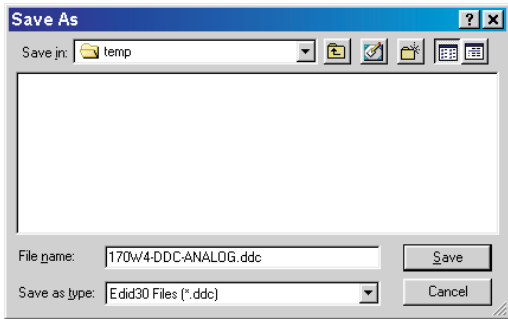

Fig. 30
1. Click (Save) icon (or click "file"-> "save as") from the tool bar and give a file name as shown in Fig. 30.